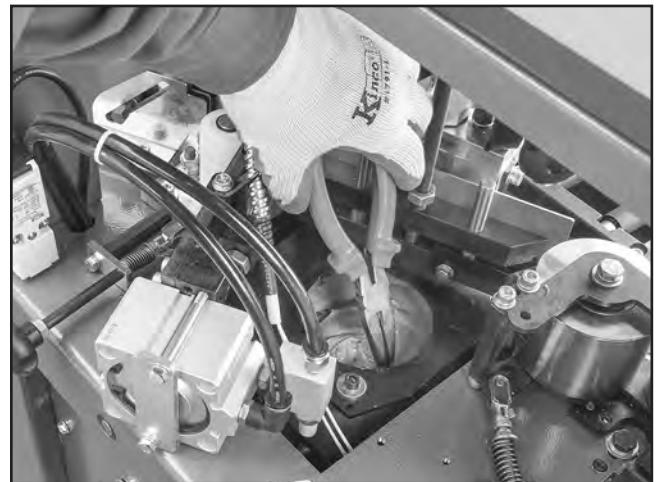

Figure 90. Example of using pliers to remove block of glue from glue pot.
4. Use pliers to grip peeled up portion of glue and pull block of glue out of glue pot (see **Figure 90**).